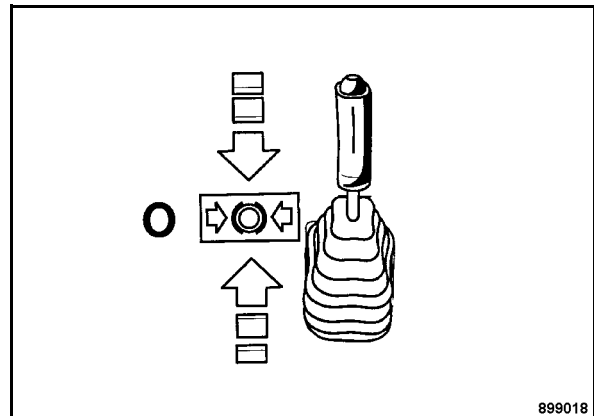

Fig. 37
- Move the travel lever (Fig. 37) to position '0'. The machine is automatically braked by the hydrostatic drive.